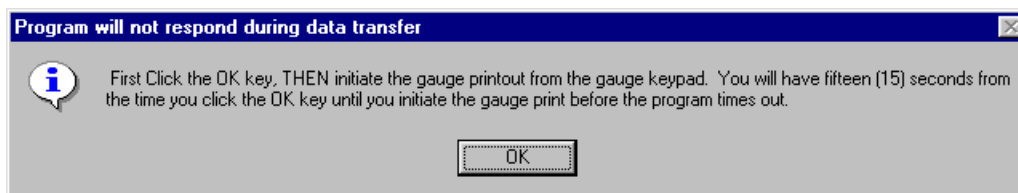

Figure 6–6. Preparing the Computer to Receive the Data Transfer
12. The program then displays the message box shown in Figure 6–6. This message box explains that the gauge must be ready to print the auto-recalibration data from the gauge to the computer within 15 seconds after the **<OK>** button on the message box is clicked.